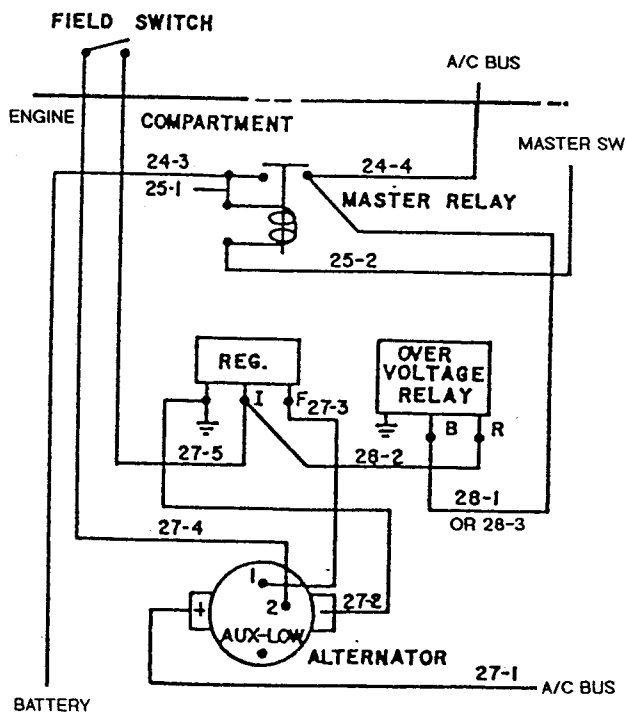

Figure 2. Installation Schematic For Over-Voltage Relay
6.3.4) Helicopters found without any over-voltage relay protection must have one installed. Please use part number FOC-4002A for a 12-volt system. Installation information is shown on page 3, Figure 2.